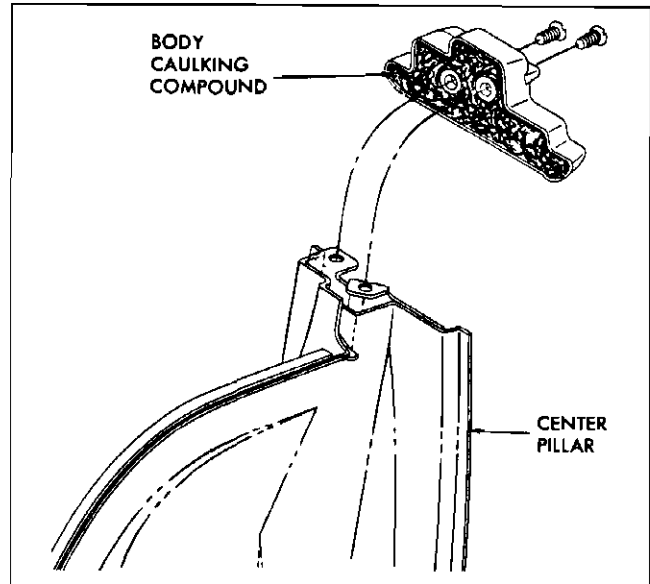

Fig. 2-45 Center Pillar Finishing Cap
2. To install, apply a bead of body caulking compound to underside of cap; then, position cap on center pillar and install attaching screws (Fig. 2-45).